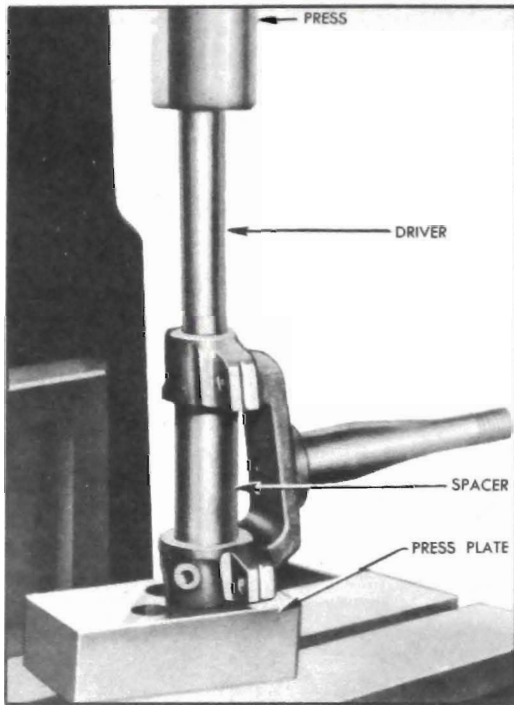

Figure 6-17—Installing Steering Knuckle Bushing
2. With oil hole in bushing in line with hole for grease fittings, and with the short groove on inside of bushing leading toward the expansion plug seat, press new bushing into arm of steering knuckle, using Driver J 1382-3, Spacer J 722-2, and Press Plate J 1649. See figure 6-17.